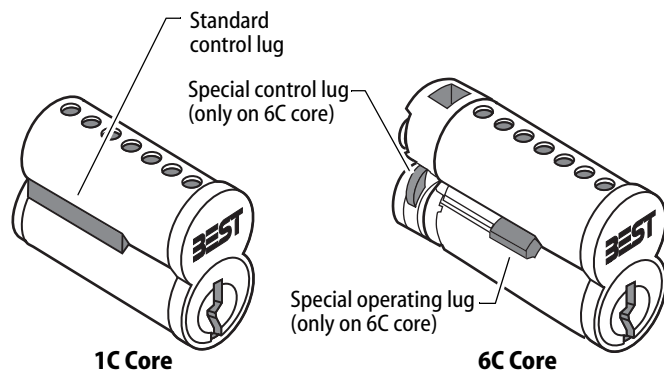

Figure 1 — Comparing the standard 1C core to the 6C core
Two lugs on the 6C core (See Figure 1)
- 1 Retract the special control lug by inserting and turning the control key counterclockwise until it stops (one full turn). See Figure 1 to identify the special control lug.
- 3 Retract the operating lug by inserting and turning the operating key. See Figure 1 to identify the operating lug.